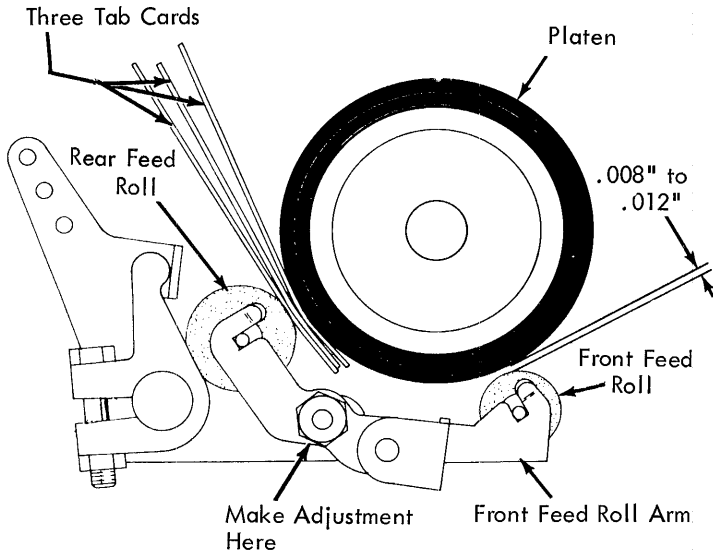

FIGURE 261. Feed Roll Adjusting Eccentrics (Early)
- a. Early - Adjust the eccentrics with the high points to the rear so that three tab cards inserted between the platen and the rear feed rolls will cause a clearance of .008" to .012" between the front feed rolls and the platen (Fig. 261). The clearance should be equal on both ends of the feed roll.